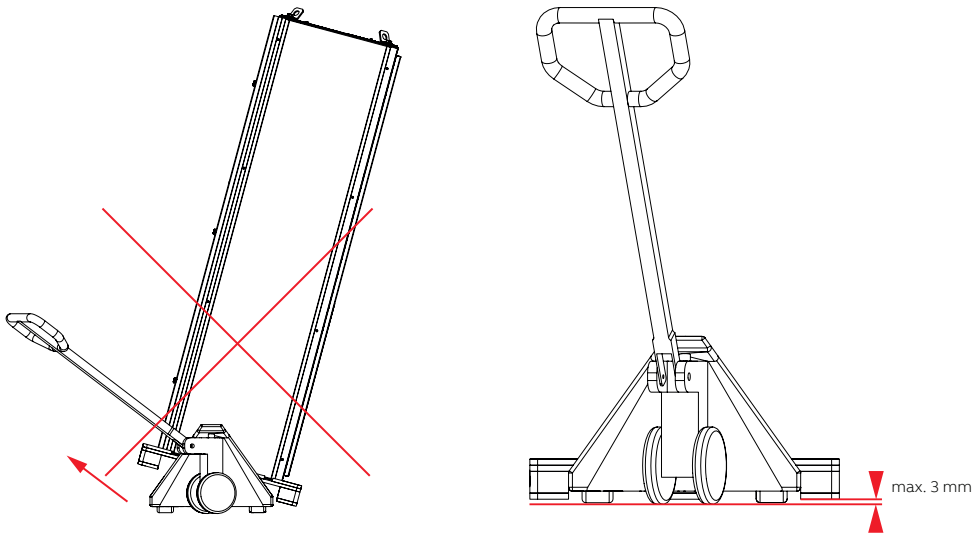

Figure 3-15 Transport with a hand-pulled truck
- Tilting and canting must be avoided (see Figure 3-15).
Sections may easily tip over when transported with a hand-pulled truck. Therefore the distance between the wooden cross beam or the pallet and the ground should not be more than 3 mm (see Figure 3-15).
- For the transport by crane the shipping units are equipped with lifting angles (see Figure 3-15).
The arrangements of the lifting angles are shown in Figure 3-15.